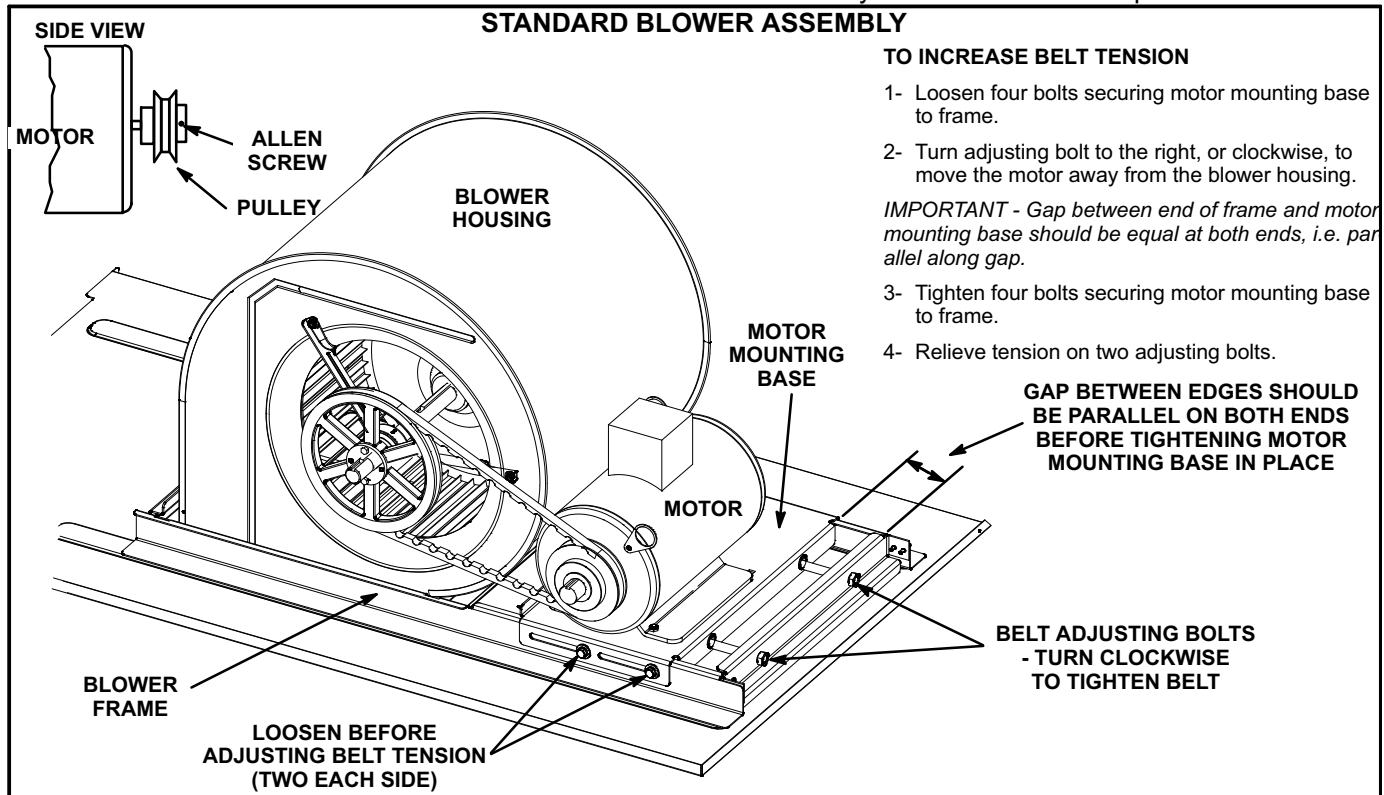

FIGURE 11
- 6- The blower RPM can be adjusted at the motor pulley. Loosen Allen screw and turn adjustable pulley clockwise to increase CFM. Turn counterclockwise to decrease CFM. See figure 11. Do not exceed minimum and maximum number of pulley turns as shown in table 3.
- 1- Loosen four bolts securing motor base to mounting frame. See figure 11.